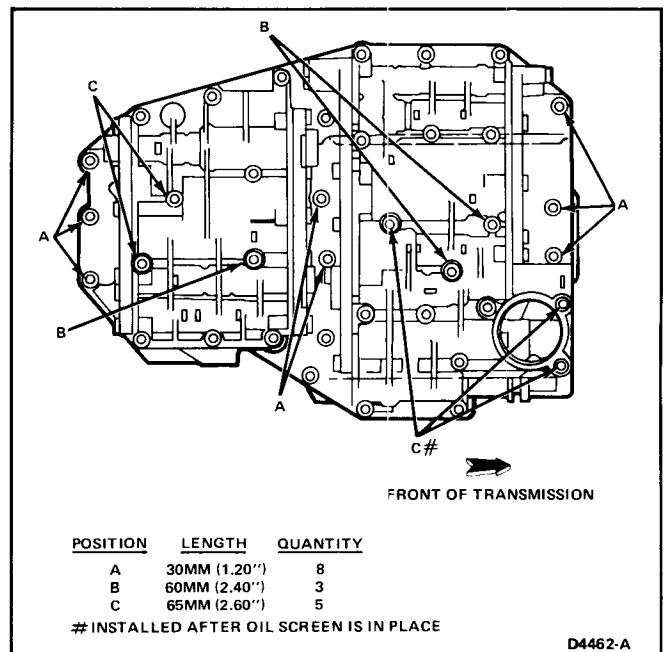

FIG. 5 Valve Body Retaining Bolts
6. Remove 13 additional attaching bolts to remove valve body from transmission (Fig. 5).
3. Position valve body against the case. Install 13 valve body bolts fingertight to hold the valve body in alignment to the case. Refer to Fig. 5 for bolt length identification.